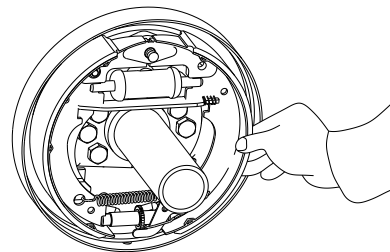

Fig. 2-13
(4) Remove the primary and secondary shoes. At the same time, remove adjuster and adjusting spring. (See Fig. 2-13)